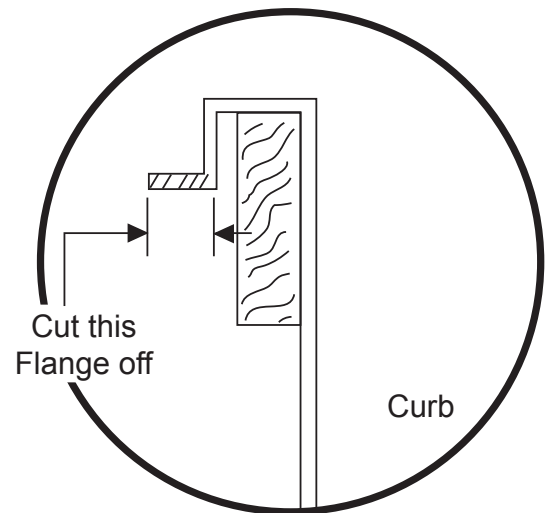

FIG. 1 - Flange Removal
1. With a sawzall or other type of cutting device, cut the horizontal angle off the CPRFCURB006A00 or CPRFCURB007A00, roofcurb. See Fig. 1 and 2. Use care not to damage roofing materials when cutting.